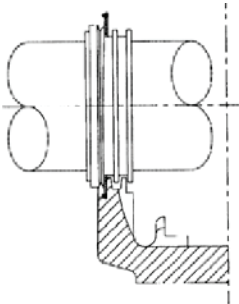

Figure 6a
6. While lowering the shaft, bearing and seal assembly into the base, guide the metal seals with rubber bead so they line up with the outboard "V"-shaped base grooves (Figure 6a). See bearing mounting instructions for proper grease fill of bearing and housing.